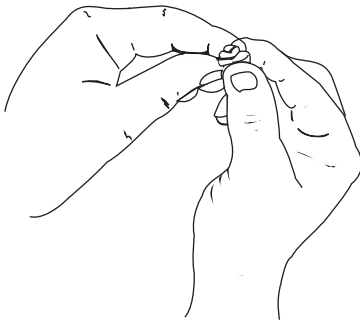

Fig. 59
5. Squeeze the filter to spread and remove excess oil (Fig. 59).